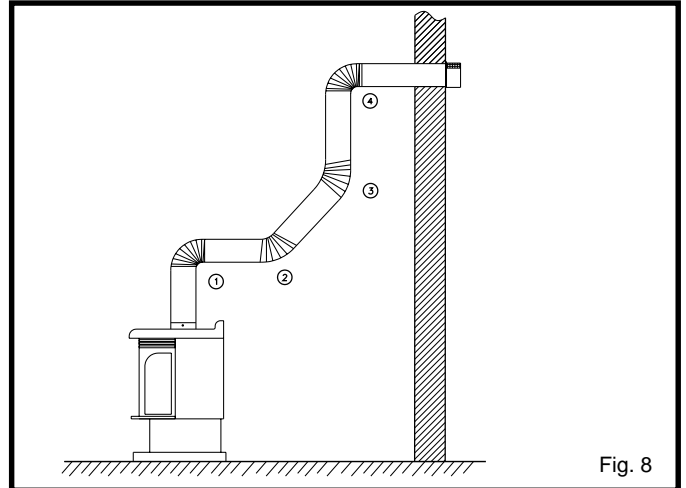

Fig. 8
The maximum number of 45 degree elbows permitted per side wall installation is two (2). These elbows can be installed in either the vertical or horizontal run (Fig. 8).
The maximum number of elbow degrees in a system is 270° (See Fig. 8).